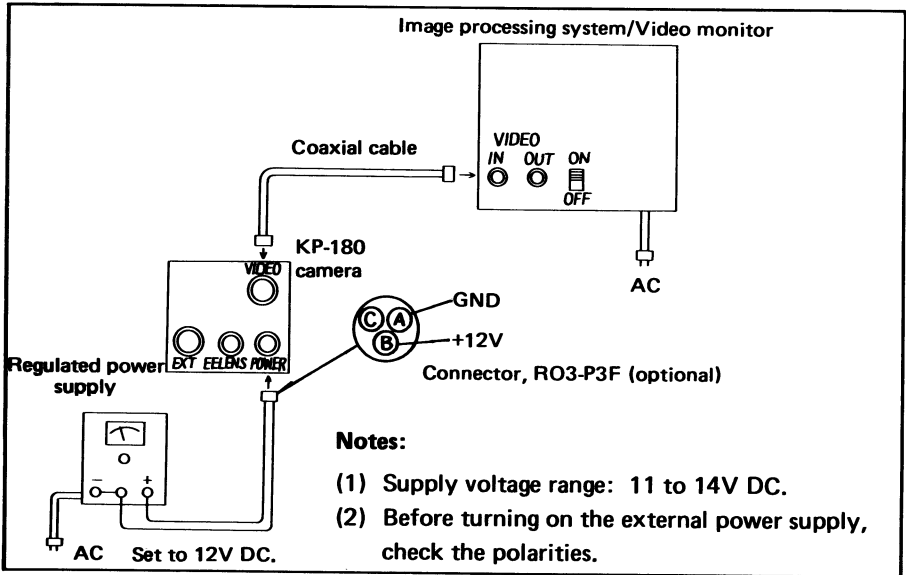

Fig. 5 Connection of regulated power supply
- Before turning on the POWER, check if the polarity is correct as shown in Fig. 5